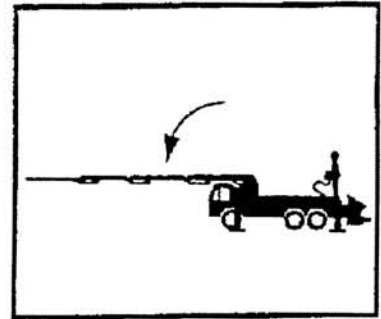

Figure 3
5. After point "A" has been established, lower the boom straight forward into a horizontal position. The weight is now transferred to the front of the turntable gear. (See Figure 3.)